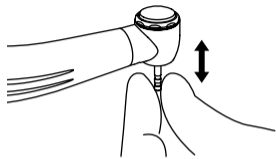

Fig. 11
- ④ Screw the head cap with fingers until it stops, then hold the tip of the test bur and make sure it's tightly and securely locked by giving a pull-and-push test. (Fig. 11)
- ⑤ Fasten the head cap to the head cap wrench until it's fixed firmly.